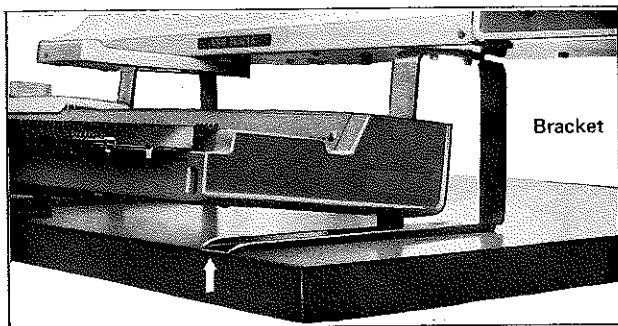

Fig. 3
- (3) Set Bracket between Machine Case and Knitting Table. Fit end of the Bracket to arrow-indicated edge of the Knitting Table as shown in Fig. 3.